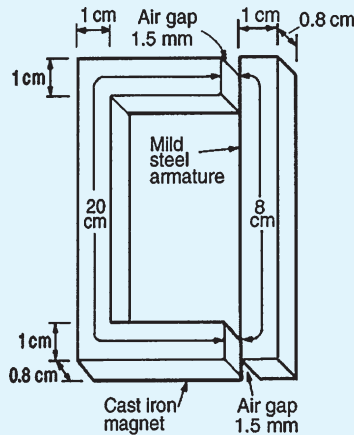

Figure 7.8
6. Fig. 7.8 shows the magnetic circuit of a relay. When each of the air gaps are 1.5 mm wide find the m.m.f. required to produce a flux density of 0.75 T in the air gaps. Use the B–H curves shown on page 83.